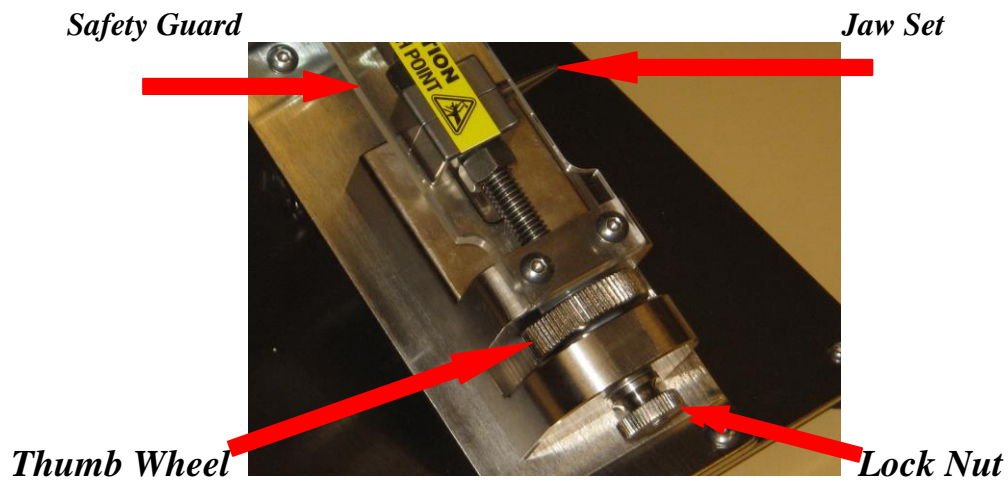

Figure 3.1.1
- Using **Figure 3.1.1**, follow the steps below to achieve proper expanding size.